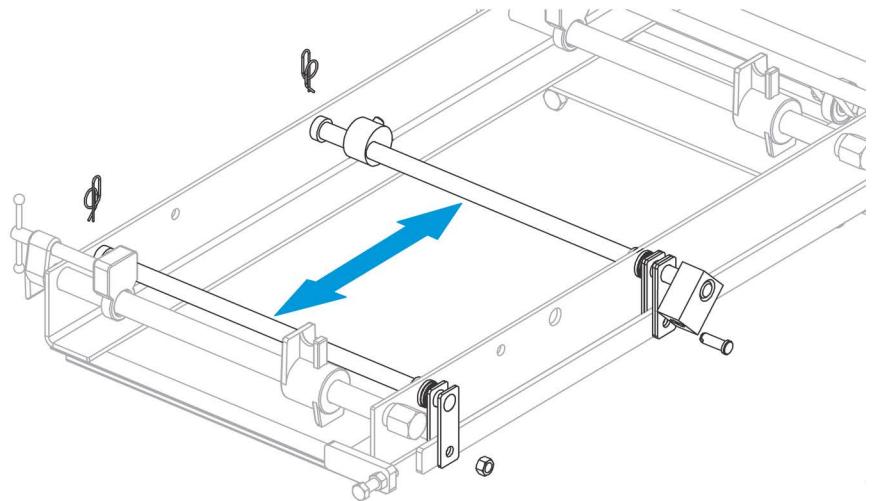

FIG. 3-2
3. Relocate the SLR shift handle to avoid interference with the front bed rail. See FIG. 3-2